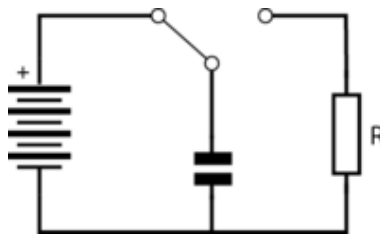

Figure 1.2: Circuit schematic for an apparatus which charges and discharges a capacitor.
If a charged capacitor is suddenly connected to a resistor, current will flow from one plate to another through resistor R . Apparatus for performing this is shown in Fig. 1.2.
In the first experiment we will measure the capacitance of an electrolytic capacitor, commonly used in electronic circuits. To achieve this, we will use the set-up shown in Fig. 1.2. Electrolytic capacitors can be manufactured with relatively large values of capacitance, however they are polarised so must be connected the correct way round in a circuit.
1. Using the electronic breadboard, construct the circuit shown in Fig. 1.2 using the 1 mF capacitor provided, and a resistor of approximately 10 k Ω . Use the bench-top power supply to charge your capacitor.